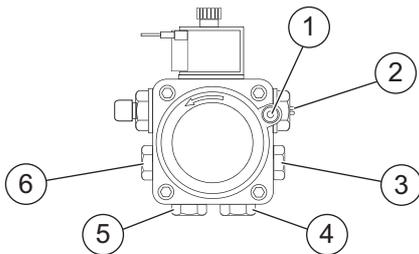
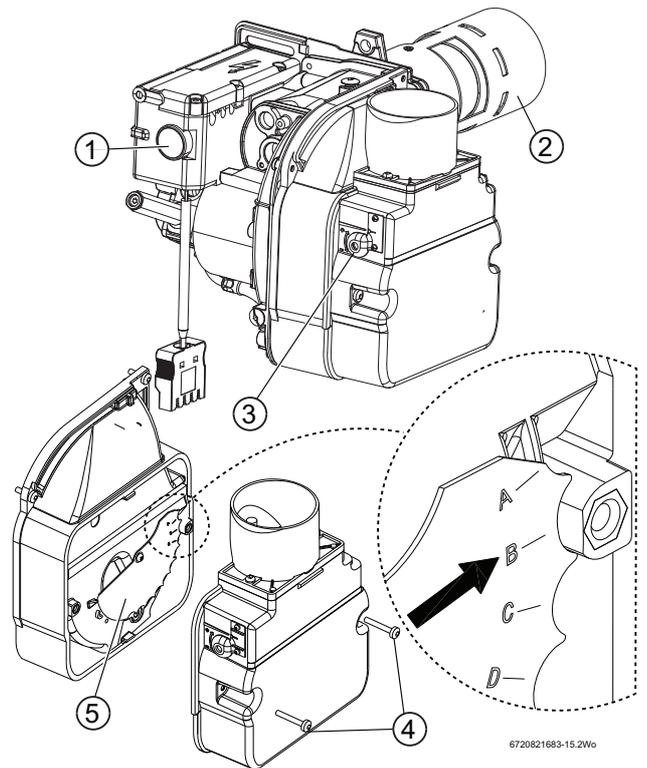

Fig. 58 Oil pump ports/connections
Fig. 59
- ▶ Adjust the air shutter [3] → figure 59 and pump pressure [2] → figure 58 as shown in the table 10 on page 39. The burner should ignite following a pre-ignition period of approximately 15 seconds.